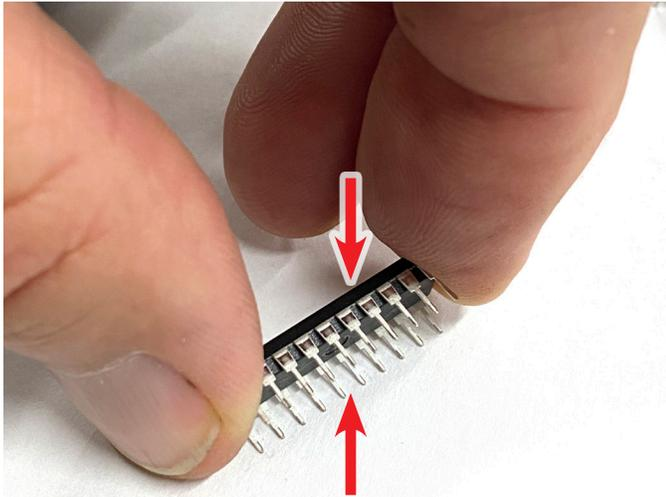

FIGURE 7—The red arrows indicate the direction and force necessary to bend the pins.
- If the pins need to be bent in a little to align better with the holes, place the chip on its side on the table and gently push down on the chip to bend the pins inward (see Figure 7).